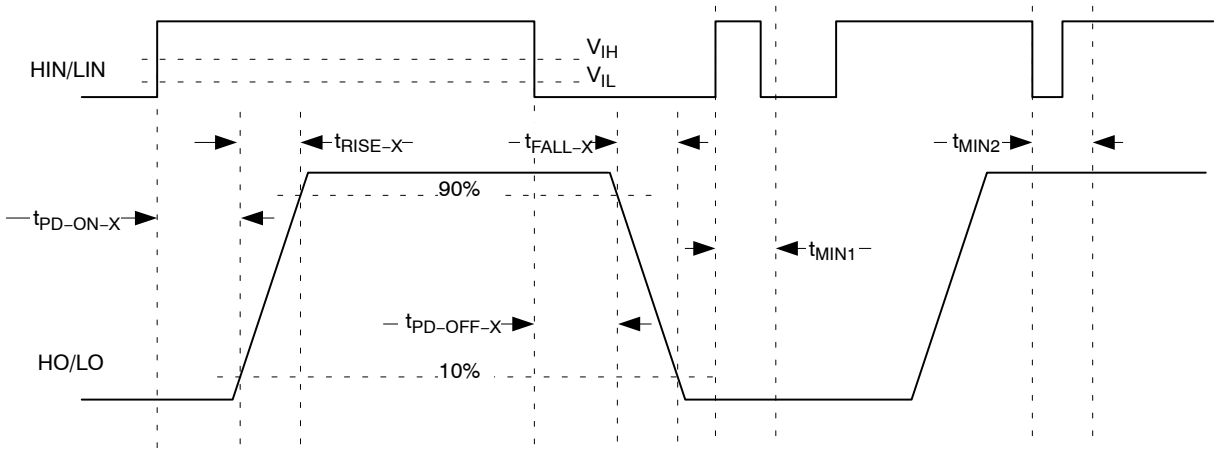

Figure 3. Propagation Delay, Rise and Fall Time
| Rise Time (HO) (see Figure 3) | $C_{LOAD} = 1\text{ nF}$, 10% to 90% of Output Change | t_{RISE-H} | | 13 | | ns |
| Fall Time (HO) (see Figure 3) | $C_{LOAD} = 1\text{ nF}$, 90% to 10% of Output Change | t_{FALL-H} | | 8 | | ns |
| Rise Time (LO) (see Figure 3) | $C_{LOAD} = 1\text{ nF}$, 10% to 90% of Output Change | t_{RISE-L} | | 13 | | ns |
| Fall Time (LO) (see Figure 3) | $C_{LOAD} = 1\text{ nF}$, 90% to 10% of Output Change | t_{FALL-L} | | 8 | | ns |
| Minimum Pulse Width Filtering Time (see Figure 3) | $T_A = 25^\circ\text{C}$ | t_{MIN1} , t_{MIN2} | 10 | | 40 | ns |